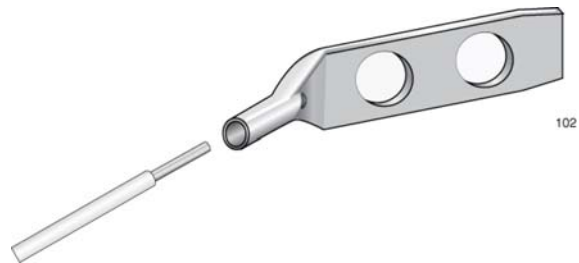

Figure 25. Attaching the Grounding Wire to the Grounding Lug
3. Insert one end of the grounding wire into the grounding lug, as shown in Figure 25, and use a crimping tool to secure the wire to the grounding lug.